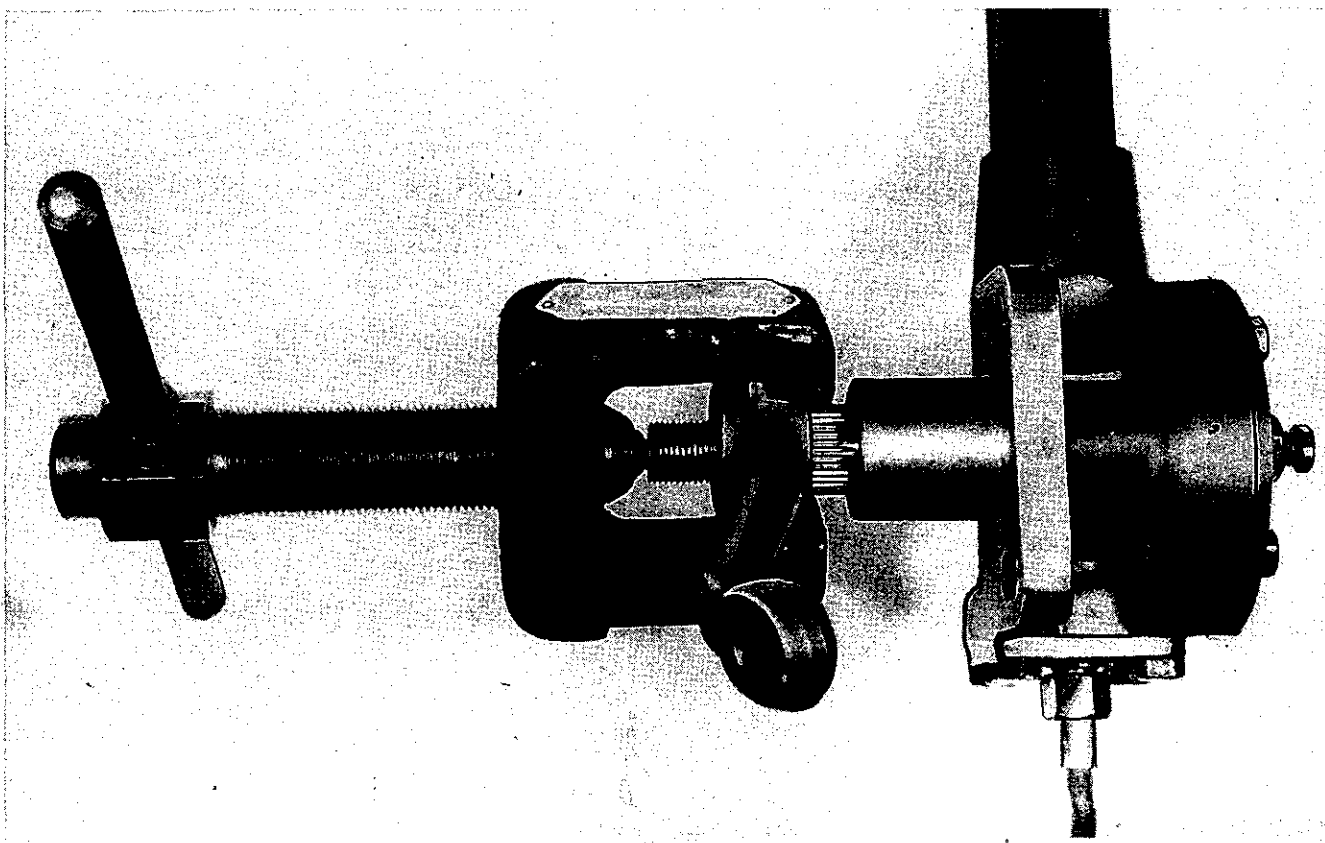
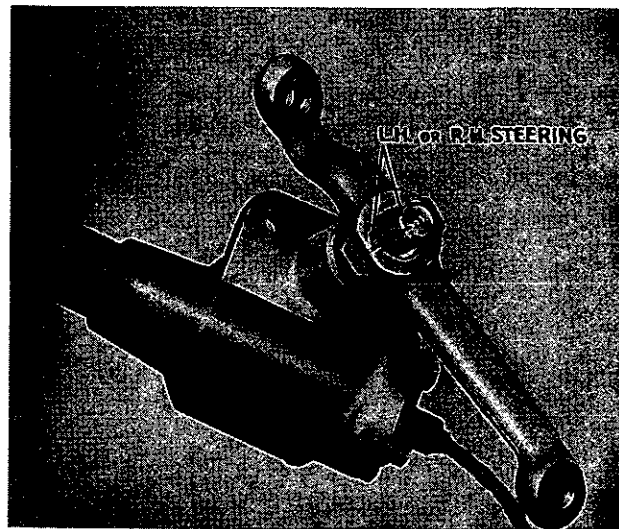

Fig. 7. Showing Churchill drop arm puller in use—Tool No. SK998
Fig. 8. Showing position for correct engagement of drop arm with rocker shaft
circumstances must the lever be removed from the rocker shaft by hammer blows. A proper extractor tool must be used as shown in Fig. 7 to remove this lever, as hammer blows may cause the taper peg to indent the cam track and cause serious damage.
If no extractor tool is available, remove top cover and the nut on the end of the rocker shaft which will then allow the drop arm to be removed by hammering with a lead hammer the end of the threaded portion of the rocker shaft so pushing the drop arm off with the side of the steering box casting. The fixed pin on the rocker shaft must always be knocked OUT of the cam not into the cam. Note the markings on drop arm and rocker shaft shown in Fig. 8 for refitting.
bottom of the rocker shaft and one on the drop arm, as shown in Fig. 8.
2. Extract drop arm with extractor as shown in Fig. 7. Note the relation of scribed line on drop arm and rocker shaft, as shown in Fig. 8 for refitting.